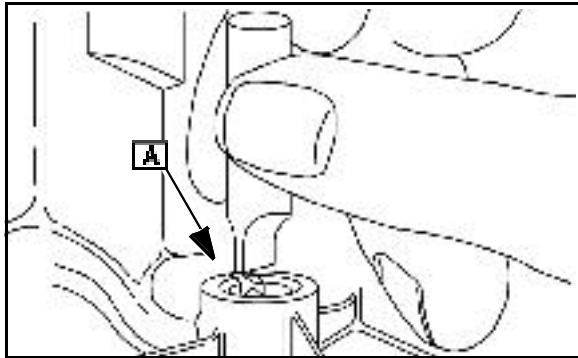

Fig. 3
10. Secure rope to pulley with overhand knot. See SECTION 8- FIG. 3.
Insert the gauge ([A] Fig. 3) into the bearing at several locations.